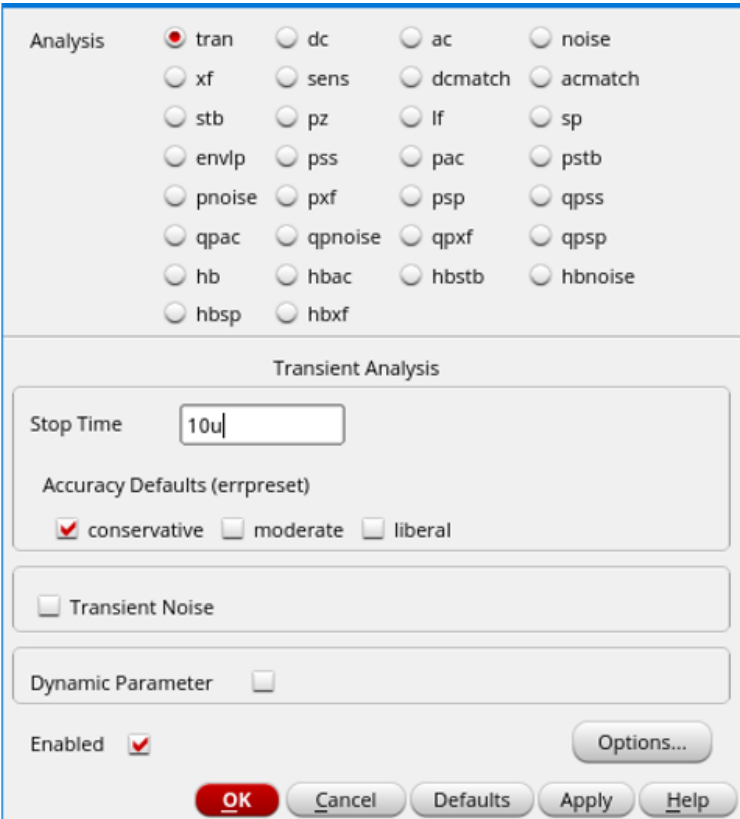

Fig.11 Tran simulation Configuration
14. Select the “Analyses”→ “Choose”→ “tran”. Enter the Simulation Time “10u” in the “Stop Time”, select “Conservative” under the “Accuracy Defaults”, then click the “OK” to complete the setting as shown in Fig.11.